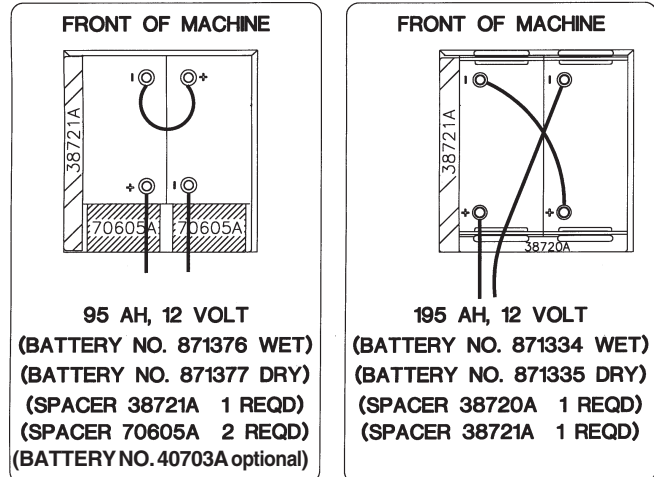

Figure 8
4. Place the batteries in the tray as shown in figure 8.
5. Connect the battery cables between batteries and install long battery cable assembly as indicated. See figure 8.